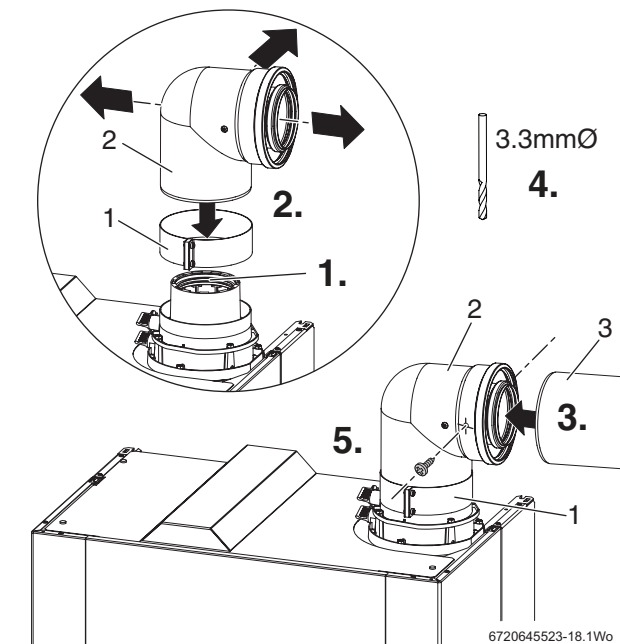

Fig. 28 Fitting the flue elbow
1. Refer to figure 28 and ensure that the seal is fitted correctly in the vertical adapter and apply a light smear of grease to the seal to aid fitting the vertical adapter.